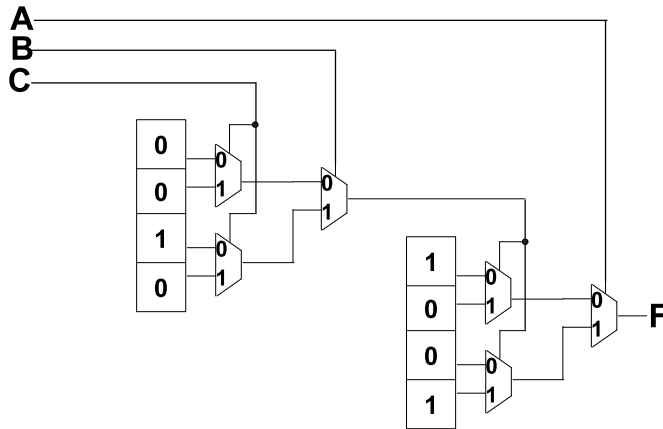

Figure 3 – Circuit for question 3.
3. The function implemented using 2 two-input look-up tables (LUT) as shown in Figure 3 is: